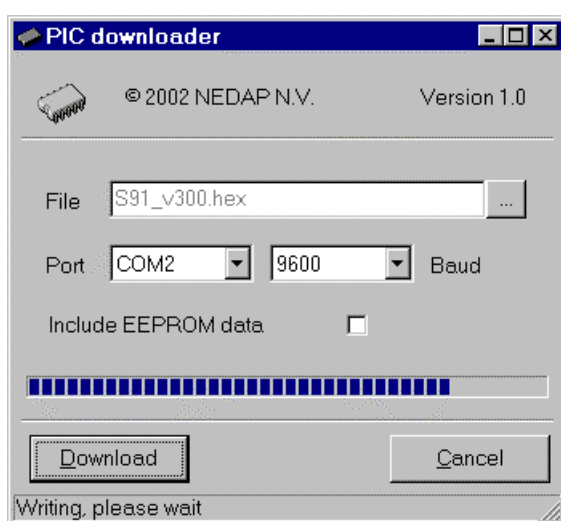

Figure 5: PIC downloader in progress
5. If the TRANS-IT[®] is properly connected and PIC downloader is setup correctly the firmware is downloaded. The window should look like shown in Figure 5.